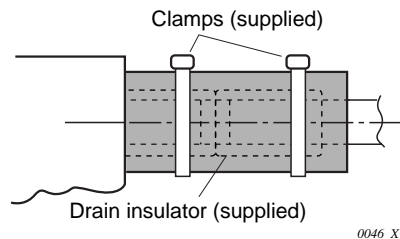

Fig. 3-12
- (2) After checking the drainage with a drain test, wrap the accessory packing and drain pipe insulator around the pipe, then secure it with the supplied clamp. (Fig. 3-12)